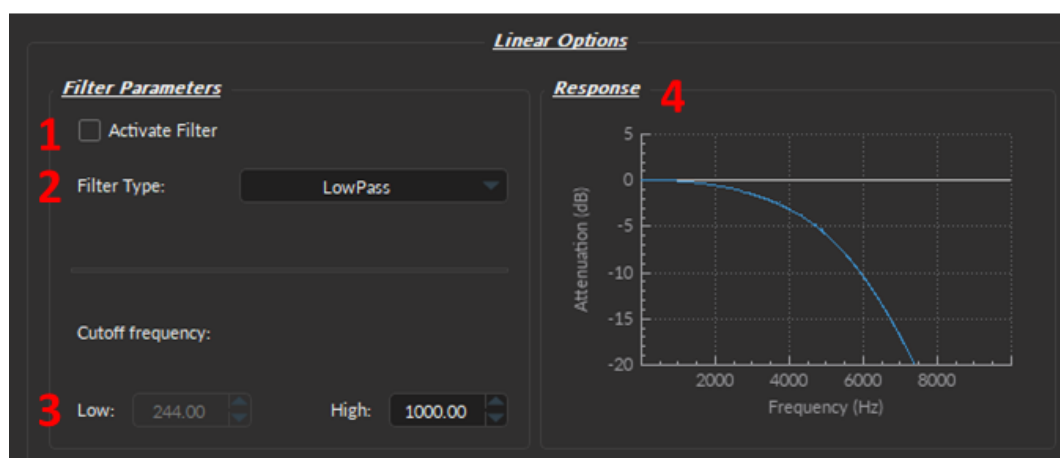

Figure 5.28: Channel(s) Configuration, Analog Input Linear
The **Linear** channel mode (Fig. 5.28) allows the direct measurement of signal received by a channel. The linear mode-specific parameters are as follows:
1. When the **Activate Filter** checkbox (Fig. 5.28, 1) is selected, the defined filter is applied on all input data and displayed on a new trace. The filtered data is for display only, and will not be saved.
2. The **Filter Type** drop-down list (Fig. 5.28, 2) allows the choice of a filter type from **High-Pass**, **Low-Pass**, **Band-Pass** and **Band-Stop**.
3. The **Cutoff Frequency** boxes (Fig. 5.28, 3) are used to define the low/high cutoff values for the filter, depending on the type used. The cutoff frequency must be less than half of the sampling rate. Note: the true cutoff value is, by definition, always 3 dB below (Low Cutoff) or above (High Cutoff) the specified value.
4. The **Response** box (Fig. 5.28, 4) displays the Frequency (Hz) vs Attenuation (dB) trace of the filter according to both the filter type and the cutoff values.